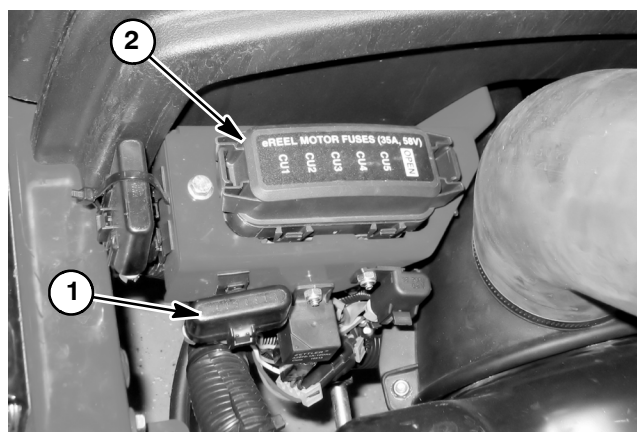

Figure 69
The location ID module exists in the 48 VDC electrical circuit to identify the location of the five (5) cutting reel motors. This module allows such machine features as starting and stopping the rear cutting units slightly later than the front cutting units. The location module plugs into the main wire harness near the 48 VDC fuse block (Fig. 69).
4. Locate location ID module secured to the frame near the 48 VDC fuse block (Fig. 69).